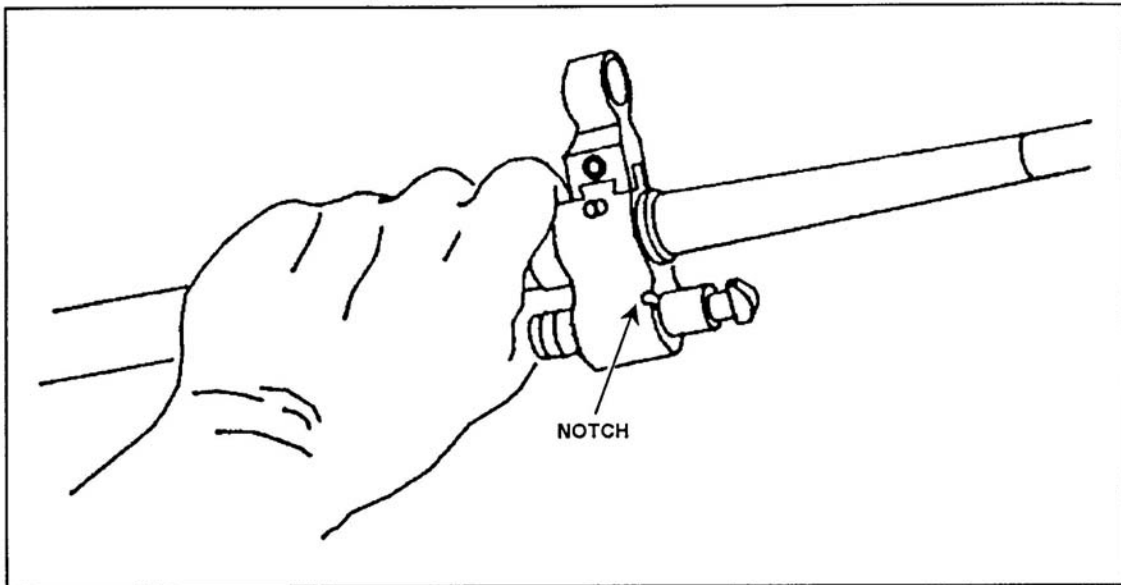

Figure 24. Replacement of the gas regulator.
- (1) Insert the gas regulator into the lower end of the hole in the gas block. Align the notch on the gas regulator body with the notch in the gas block (Figure 24).